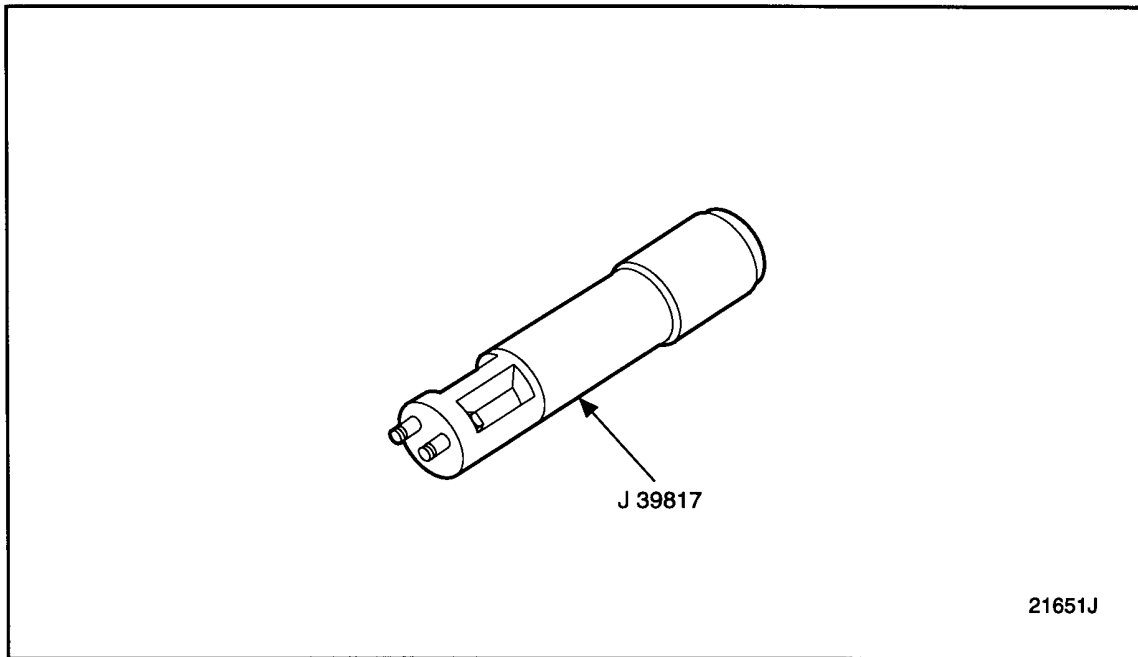

Figure 1-373 Balance Shaft Removal Tool
1. Attach the balance shaft removal tool, J 39817, to the rearmost bearing journal face of the left side balance shaft. See Figure 1-373.